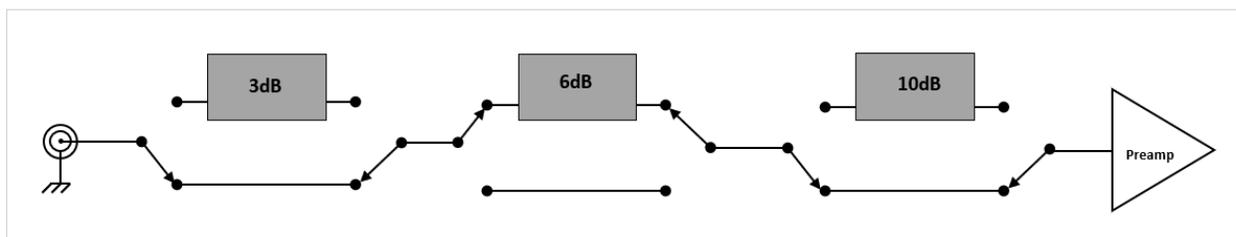
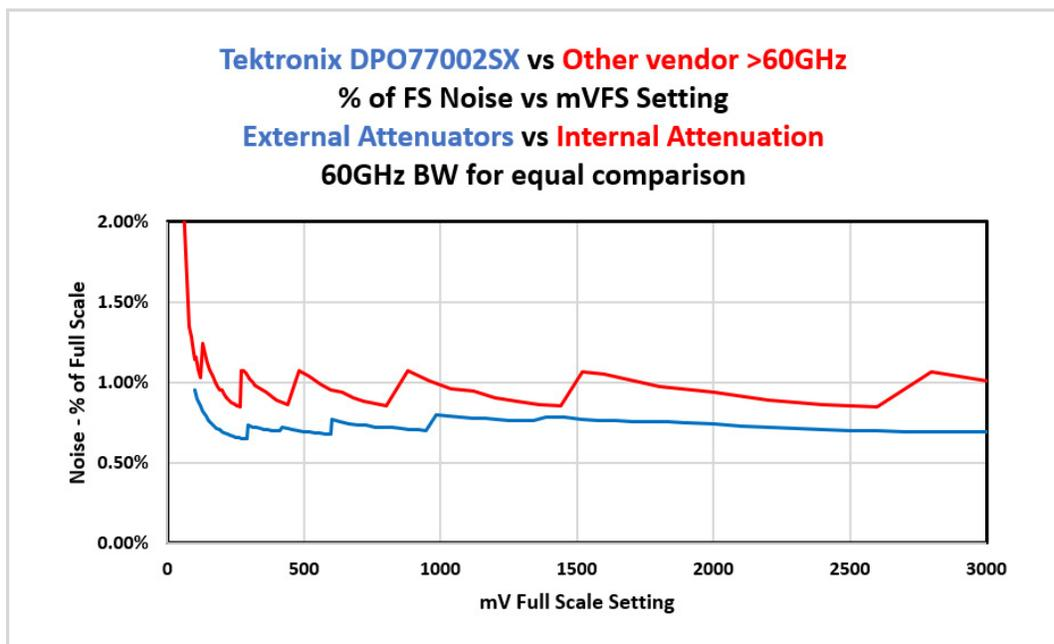

Figure 1 - Three stage internal attenuator switch matrix.
Figure 3 - Noise as a percent of full-scale voltage range on Tektronix DPO77002SX versus other vendor's >60 GHz Oscilloscope
Traditional oscilloscope channels use an internal switchable attenuator matrix to support various V/div settings. Attenuator values are controlled via switching relays based on various V/div settings from the user through front panel controls, GUI changes, or programmatic interface (PI). Different value attenuators are switched into the acquisition path depending on the vertical scale. Implementations may have 1 up to N stages depending on pre-amp gain input range and desired attenuation steps. TekConnect inputs on DPO70000SX oscilloscopes implement a 1-stage variable attenuator. For illustration purposes a three-stage example is shown in **Figure 1**.
ATI channels: Mechanical or electronic attenuators can degrade over time. They also increase repair time and cost since components need to be integrated onto the acquisition board. External attenuators can be chosen, installed, and swapped out for a fraction of the cost with little down time. The user can match the attenuator value selected to the application, signal characteristics, and test pattern to optimize V/div scaling vs noise as shown in **Figure 3** below. If an attenuator is damaged or wears out it can be replaced without removing instruments from the test environment.
Figure 3 shows a plot of noise measured across voltage FULL-SCALE SETTING range. One oscilloscope using external attenuators is shown in blue, compared to another oscilloscope using internal six-stage switchable attenuation shown in red. Notice the peaks in each noise curve. These peaks indicate where an attenuator value is changed. For the red curve, internal switches change the signal path thru attenuators, as shown in **Figure 1**. For the blue curve, external attenuators are changed by hand on the front of the scope channel. In each case, peaks are evident when attenuator value is changed. However, these peaks are lessened on the blue curve for external attenuator case, resulting in less vertical noise. Further, you will notice the natural shape of the amplifier relative to each inflection where a different attenuation value was set. A flatter curve is better, resulting in higher fidelity across the voltage range with less noise.